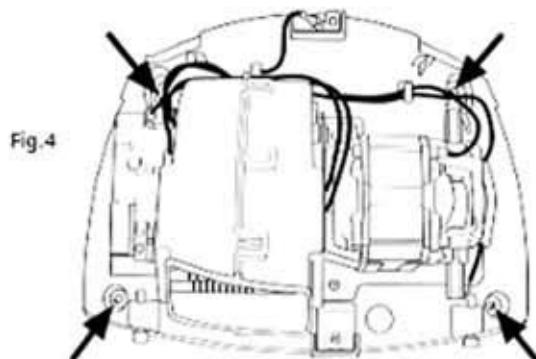

Fig.4
- * Mark the position of the four wall fixing holes in the backplate (Fig.4.) and drill for the wall plugs and screws provided.